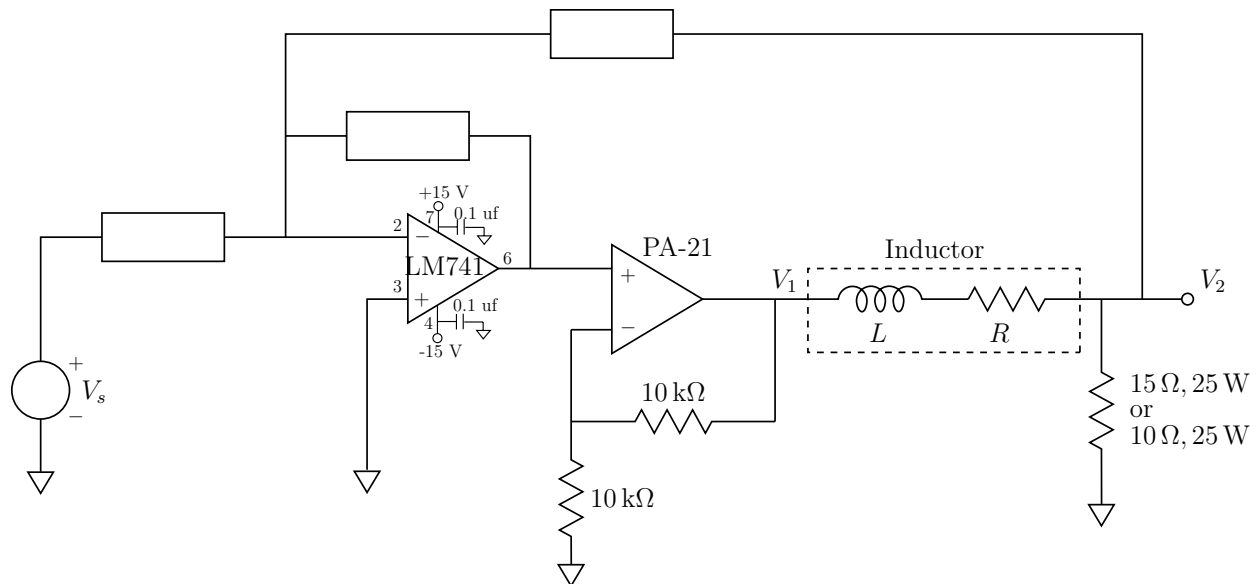

Figure 4: Closed-loop current controlled amplifier.
3. **Current controlled amplifier:** In this section, we combine the power op amp with a 741 amplifier to yield an amplifier which controls the voltage on the 25 W power resistor, and thus the current through the load inductance (to the extent that the resistor is ideal). The topology of the circuit is shown in Fig. 4. Here the 741 is to be built on the protoboard and powered from the protoboard supply. The supply connections are shown on the circuit diagram. Be sure to include bypass capacitors on each supply pin in close proximity to the chip.
Use the model of the inductor that you developed in the previous section at 0 A bias to choose components of the control amplifier to fill in the boxes in Fig. 4. Specifically for your measured inductance, design the control amplifier to stabilize the loop with a 1000 rad/sec crossover frequency and at least 60 degrees of phase margin. Design your amplifier so that 10 volts input yields 0.7 amps coil current at low frequencies. The controller must also include an integral term so as to have high accuracy at low frequencies. Include in your report a block diagram showing the transfer functions of the key dynamic elements in the loop. For your design, sketch a root-locus plot showing how the closed-loop poles move as the control amplifier gain is varied. Also, sketch Bode plots of the negative of the loop transmission, and indicate on these the loop crossover frequency, phase margin, and gain margin. Although you are welcome to use Matlab for these calculations, please first sketch the plots by hand. (**Hint:** With respect to the practical world, in order to prevent high-frequency oscillations, be sure that the control amplifier gain falls off at least as  $1/\omega$  at high frequencies, i.e. for frequencies well above crossover. Whenever you power up a new circuit, always use a scope to check for the presence of such oscillations, and be sure to eliminate them before proceeding with the measurements in this lab. An oscillating amplifier will yield “flaky” results at best, and may smoke itself and/or your load at worst.)